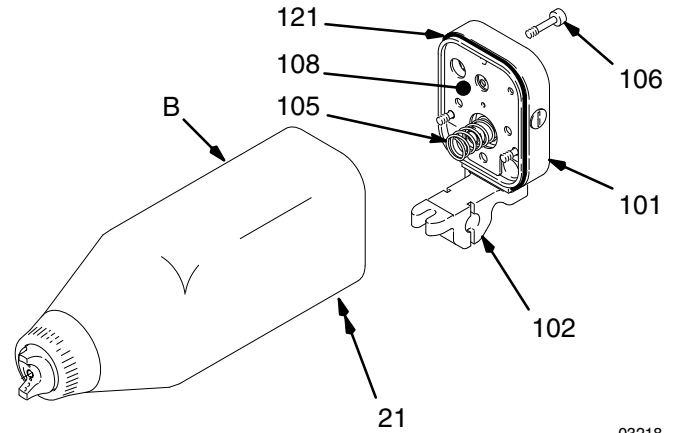

Fig. 33
1. Make sure the gaskets (108, 121) and spring (105) are in place on the manifold (101). See Fig. 33. Inspect the parts for damage and replace them as needed.
2. Secure the gun (B) to the manifold (101) by tightening the three screws (106) with the ball end wrench (77—not shown).
3. Secure the gun (B) to the mounting bracket (102) by tightening the screw (21) with the ball end wrench (77).